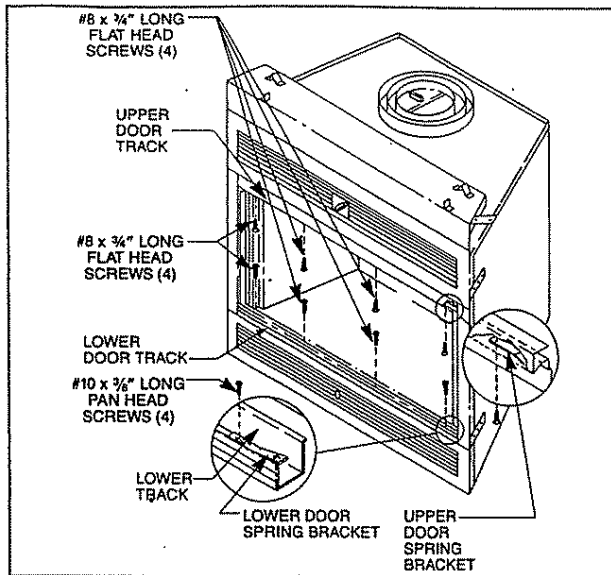

Fig. 30. Mounting door tracks.
You will find prepunched holes in the top and bottom surround for the mounting of the door tracks. With the shorter leg of the track facing away from the fireplace, place one (1) spring bracket in each end of the door track. (See Fig. 30.) (NOTE: #10 x 3/8 inch long pan head screws must be installed into slots in spring brackets with holes in brackets positioned to outward ends of door tracks.) Position the door track as shown in Fig. 30, install two (2) #8 x 3/4 inch long flat head screws in center of two (2) holes of door track, securing the door track to the bottom surround. Using two (2) #10 x 3/8 inch long screws, attach two (2) spring brackets, making certain the spring brackets are positioned as close to the sides of the fireplace as possible. Attach the remaining door track to the top surround using the same method.